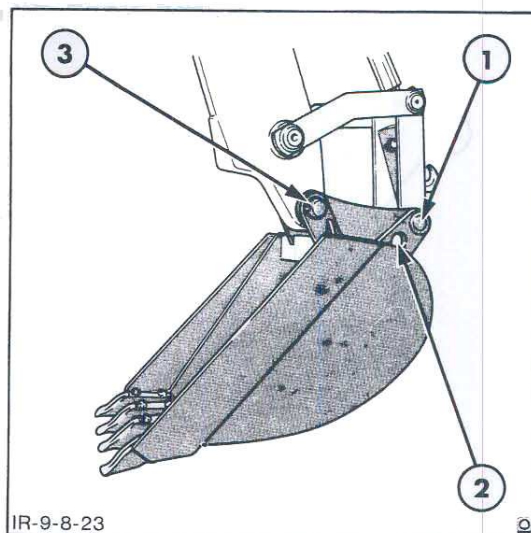

Figure 24
2. Remove the two lynch pins that secure the attaching pins to the dipstick and bucket link, Figure 24. Withdraw the spacer from each pin.
NOTE: Two bucket linkage positions are available as shown in Figure 24. Position (1) is suitable for the majority of backhoe operations as it provides greatest bucket power. Position (2) is best suited for straight wall operations as it provides maximum bucket rollout and curl. It also provides maximum clearance at full height but slightly reduces bucket tear-out power.